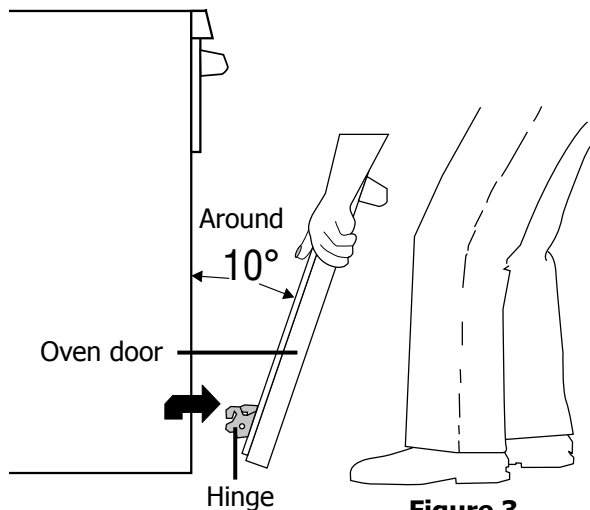

Figure 3
3. Firmly grasp both sides of oven door along the door sides (Do not use the oven door handle - See Figure 3).
1. Firmly grasp both sides of oven door along the door sides (Do not use the oven door handle - See Figure 3).